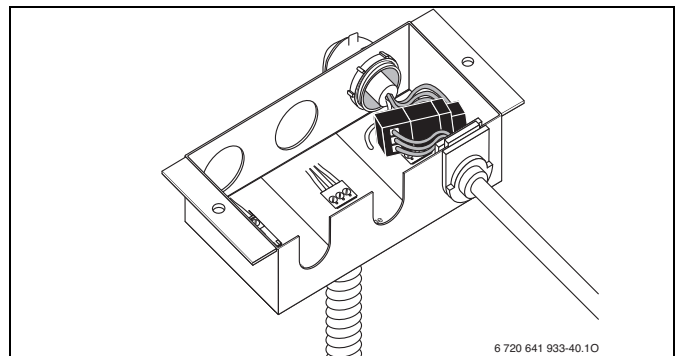

Fig. 46 Cable connected (external pump)
- ▶ Insert cable into the junction box as shown in Fig. 46.